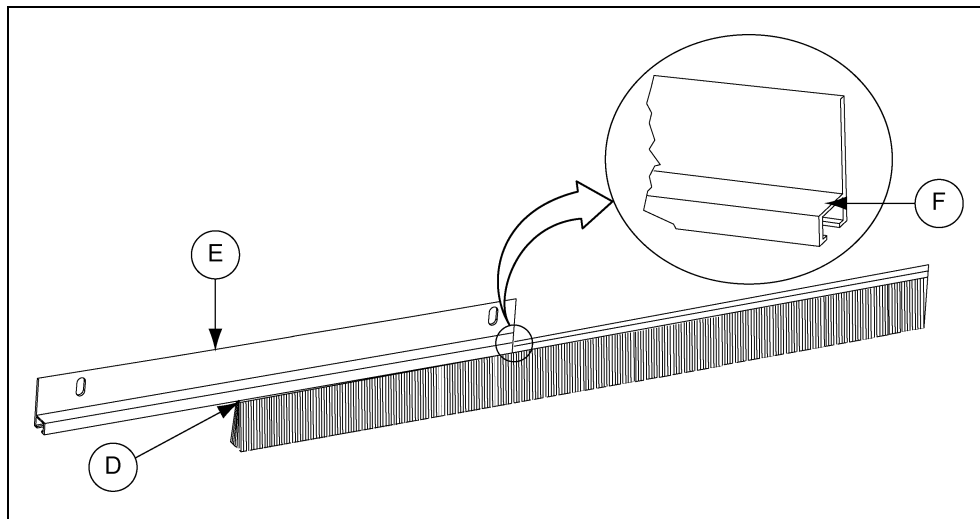

Figure 4R
- Install one end of the brush (D) to the end of the brush holder (E) and guide the brush along the slotted groove (F). (See Figure 4R.)